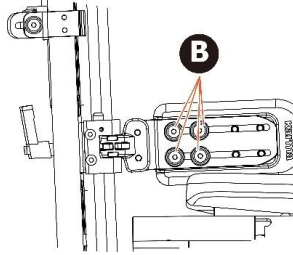

Figure 9.24
- To adjust the depth, please loosen the bolts **(B)**, then adjust the support forward and backward to the suitable depth. Last, remount the bolts **(B)** (See Figure 9.24).